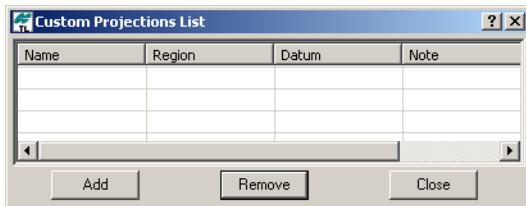

Figure 3-7. Custom Projection List
2. In the *Custom Projection List* dialog box, click **Add** (Figure 3-7).